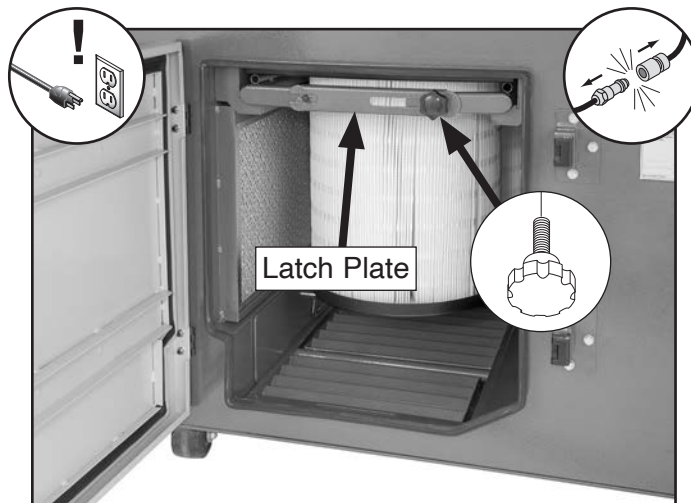

Figure 50. Location of filter retaining knob and latch plate.
3. Pull (2) maintenance door handles to open maintenance door.
4. Loosen knob shown in **Figure 50**, then slide latch plate right.